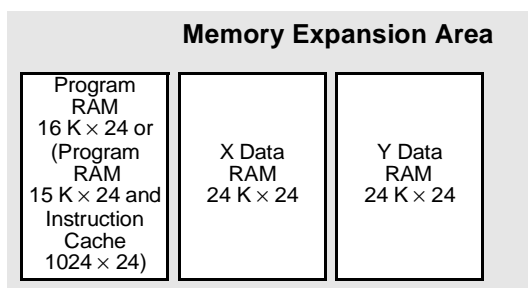
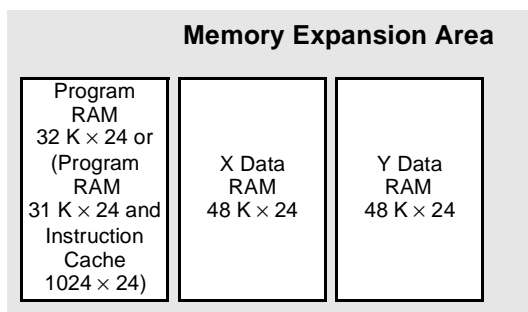

Figure 1. DSP56307 Memory Block Diagram
Figure 2. DSP56311 Memory Block Diagram
The DSP56311 has a total of 128 K × 24-bit on-chip RAM compared to the 64 K × 24-bit on-chip RAM of the DSP56307. In both devices, RAM is partitioned into program memory space (P), and X and Y data memory space. The program memory space (P) includes internal Program RAM, an internal Instruction Cache (that behaves as Program RAM when the cache is disabled or reassigned to external program RAM when cache is enabled), a boot program ROM, and an optional off-chip memory expansion. The data memory space is divided into X data memory and Y data memory in order to work with the two address arithmetic logic units (ALUs) and to feed two operands simultaneously to the data ALU. Each data memory space includes internal RAM and optional off-chip memory expansion. **Figure 1** shows the default memory block diagram for the DSP56307. **Figure 2** shows the default memory block diagram for the DSP56311.